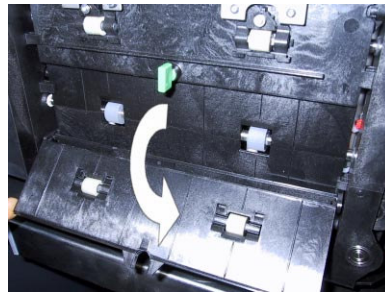

Fig. 7-8. Unlock and lower middle access door to check for stuck notes.
6. Release the **middle access door** (refer to **Figure 7-8**). Carefully lower the door to expose the feed path. Remove any notes.